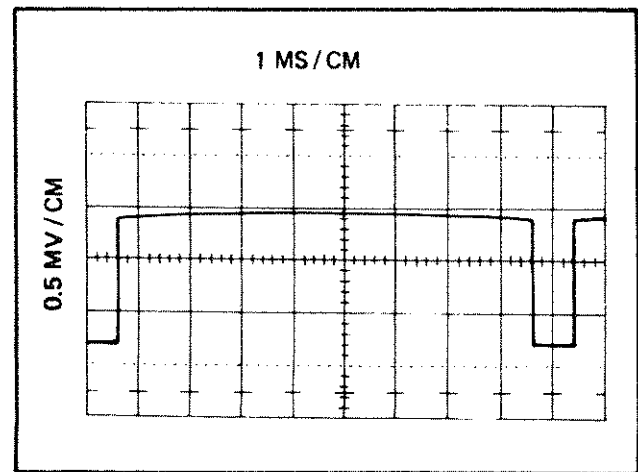

Figure 4-11. PRE - REGULATOR Q1, WAVEFORM ON OPR
- f. Set the POWER switch to OPR. The oscilloscope waveform should appear as shown in Figure 4-11.